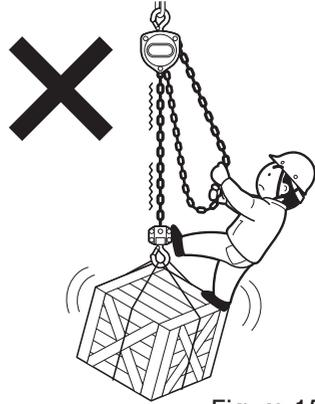
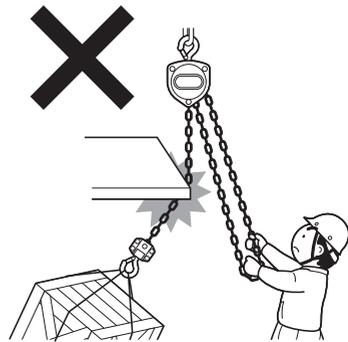
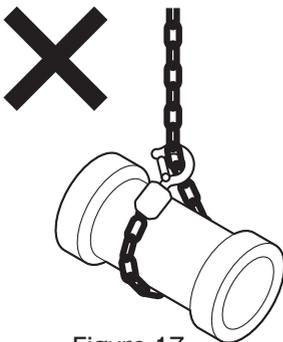

Figure 15
Figure 16
Figure 17
- (24) Do not allow anyone to ride on suspended loads. Never use the manual chain hoist for human transport purposes. (Figure 15)
- (25) Never reverse a suspended load without sufficient expertise in doing so.
- (26) Do not suspend excessive loads.
- (27) Never use the hoist or the hook to work as a fulcrum.
- (28) Do not use damaged or deformed top/bottom hooks.
- (29) Never use this equipment if the load chain is deformed or damaged.
- (30) Do not operate the equipment with the load chain lodged against a steel plate or other corners. (Figure 16)
- (31) Do not operate the load chain by any means other than human power (do not use any tools or objects on the controls).
- (32) Suspend slings properly onto the hook.
- (33) During lifting, temporarily pause winding once either the load chain or sling comes under tension.
- (34) Keep the manual chain hoist unit and load chain clean and free of sand and other debris.
- (35) Make sure the lifting height is sufficient for the intended work.
- (36) Make sure the load chain is sufficiently lubricated.
- (37) Do not modify this equipment in any way.
- (38) Do not use with the load chain wrapped around the load. (Figure 17)